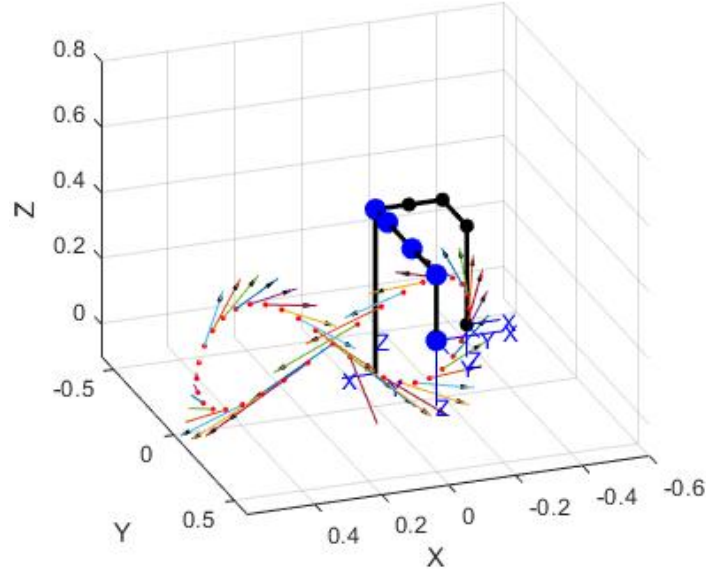

Figure 3: (From exercise 3) style of vector plotting required for foot velocity during trajectory.
5. Finally compute the Jacobian of the leg and use the joint velocities from exercise 3.4 to compute the foot velocity at each instant in time, plotting the leg velocity, the joint velocities and the leg with velocity vectors at each instant in time similarly to what is shown in Fig. 3.